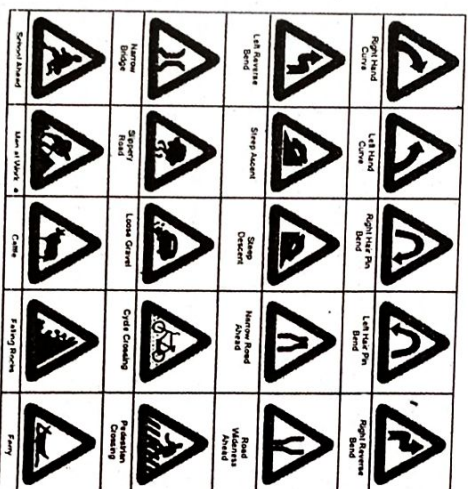

Fig. 2
2. Cautionary Signs: These signs make the road users conscious of hazardous conditions on the road beforehand. The drivers, accordingly, take necessary actions to handle the situation. Some cautionary signs are shown in figure 2.